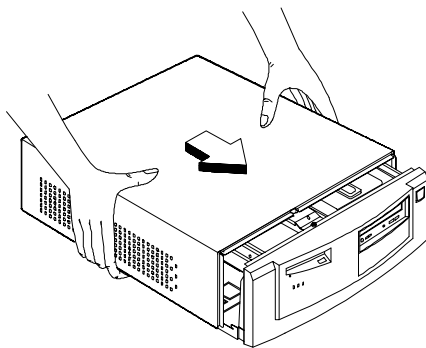

Figure 4-4 Replacing the Housing Cover
1. Replace the housing cover as shown in Figure 4-4.